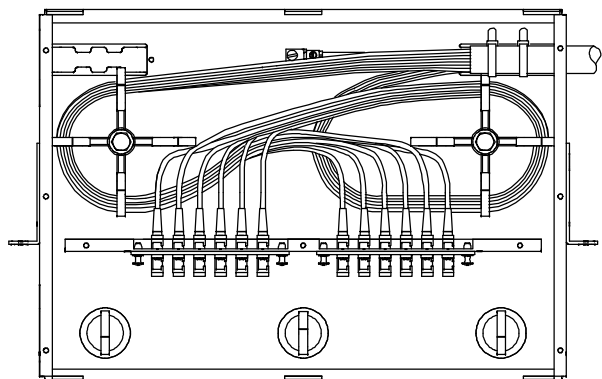

Figure 6
2. Dress the fiber around the split fiber saddle ring at the opposite side of the enclosure. Join the connectors to the coupling bushings at the back of the adapter plate. See Figure 6, Detail A.
4. Dress the fiber around the other split fiber saddle ring. Join the connectors to the coupling bushings at the back of the adapter plate. See Figure 6, Detail B.